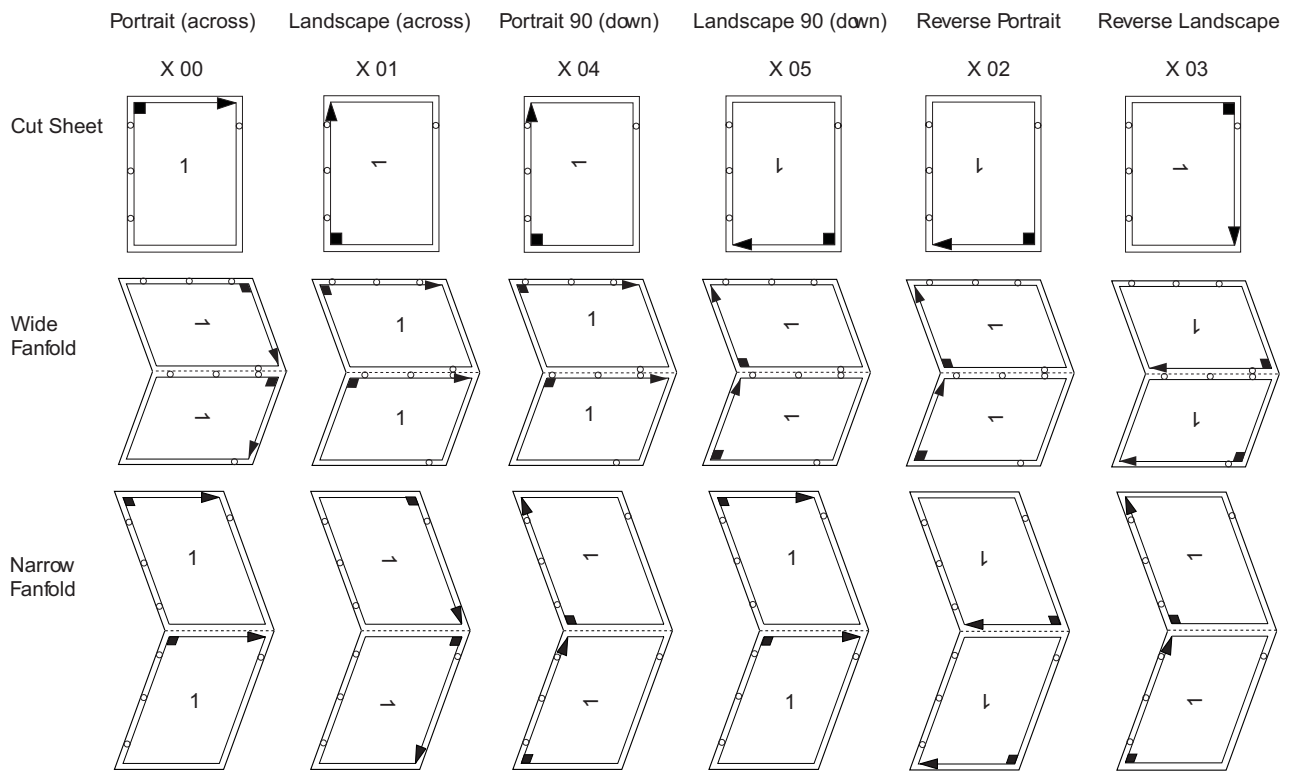

Figure 71. N\_UP 1 Partition Numbering, Front Sheet-Side
- I Figure 71 on page 138 through Figure 82 on page 143 show the partition arrangement that results from every combination of **N\_UP** value, paper size, and presentation option.